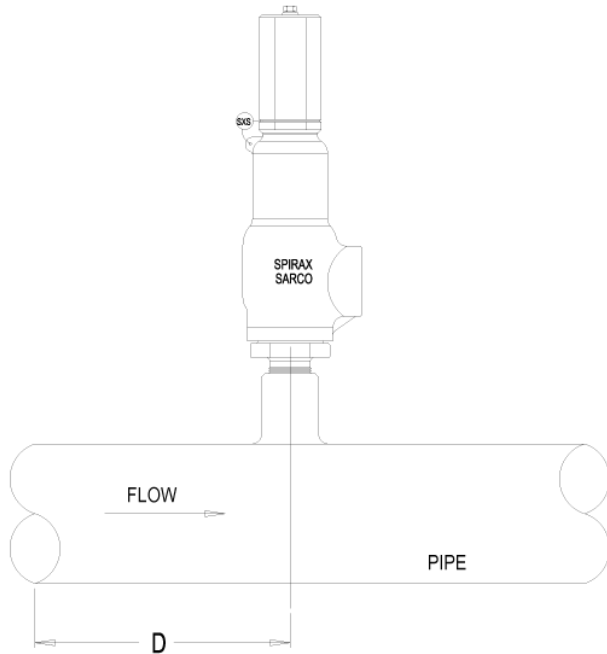

Figure 04
- To reduce the effects of excessive turbulence at the inlet of Safety Relief Valves, the following recommendations should be observed (**Figure 04**):